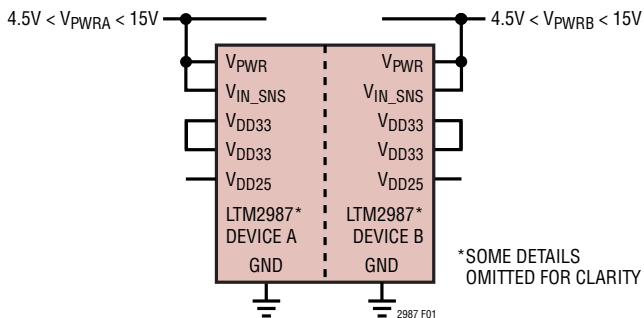

Figure 1. Powering LTM2987 Directly from an Intermediate Bus
The LTM2987 can be powered two ways. The first method requires that a voltage between 4.5V and 15V be applied to the VPWR pin. See Figure 1. Internal linear regulators convert VPWR down to 3.3V which drives all of the internal circuitry in each device. Do not tie the VDD33(A) and VDD33(B) pins together since each half of the LTM2987 has independent voltage regulators.